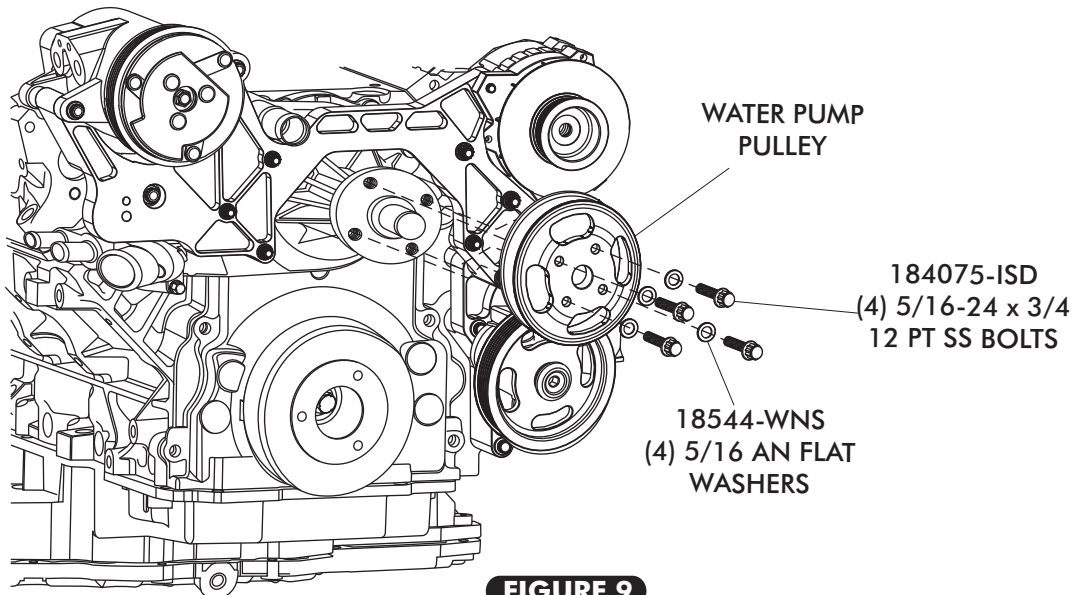

FIGURE 9
- INSTALL WATER PUMP PULLEY ONTO WATER PUMP USING (4) 5/16-24 x 3/4 BOLTS AND (4) 5/16 AN FLAT WASHERS AS SHOWN IN FIGURE 9 BELOW. TORQUE TO 22 LB FT.